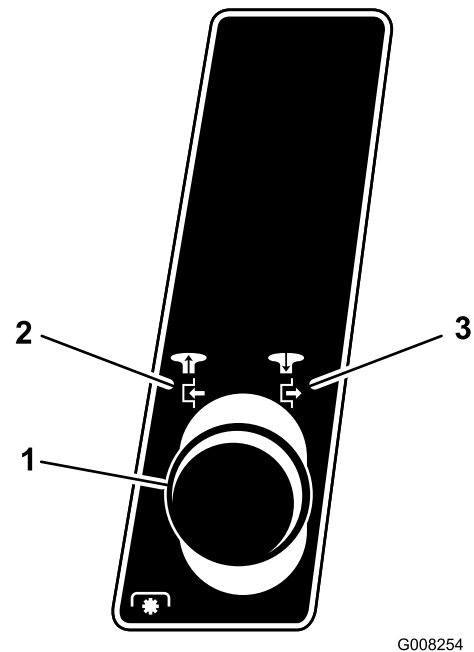

Figure 5
2. Pull the blade control (PTO) knob out to the Engaged position (Figure 5).
2. Push the blade control (PTO) knob into the Disengaged position (Figure 5).